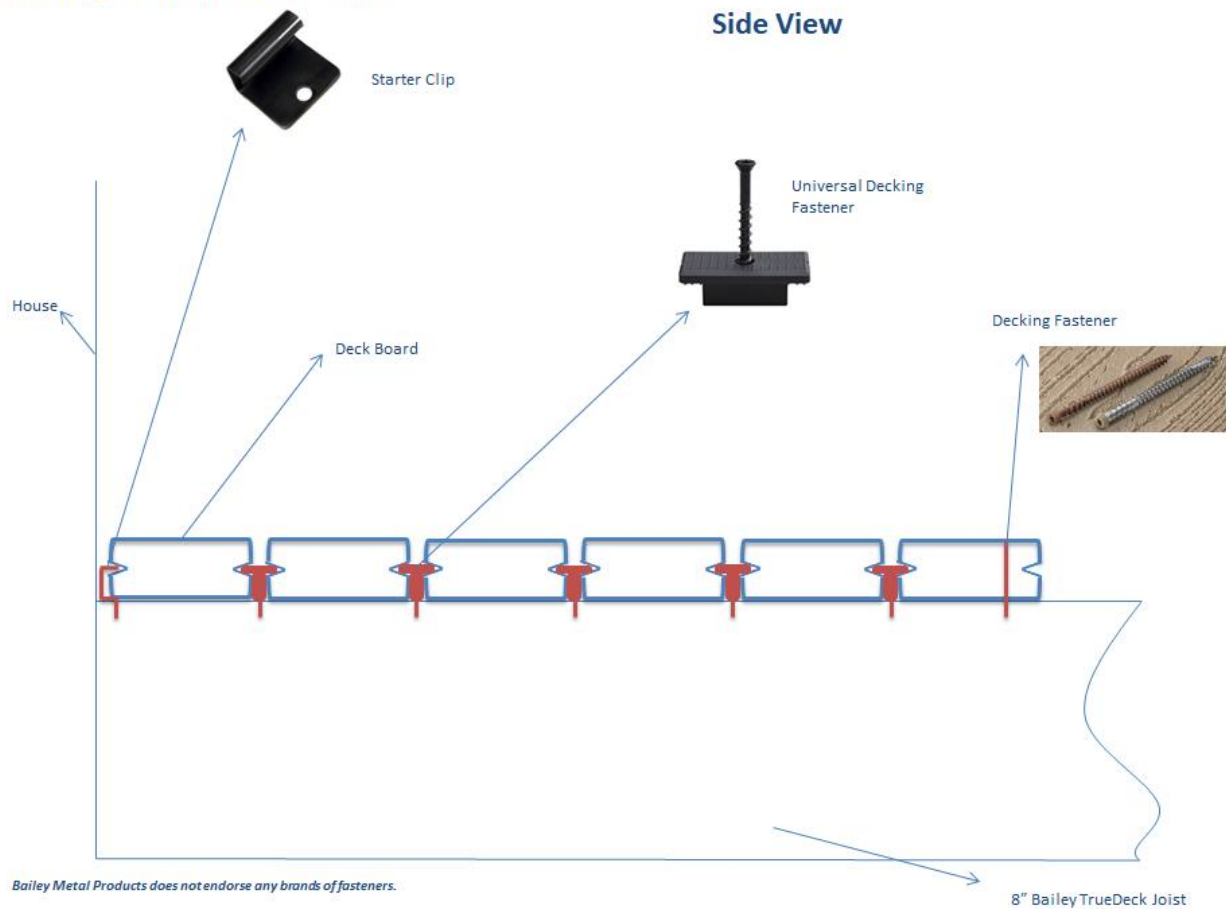

Figure 24
7. **Installing Decking Boards:** Follow decking board manufacturer's installation instructions. As one of the methods of installing decking boards, we recommend using a starter clip for the first deck board (close to the ledger) followed by a series of decking fasteners attached between deck boards. Although we don't endorse any specific brand of deck screw, we have seen good results with Cortex hidden fastening system for steel deck framing. Please refer to fastener manufacturer's instruction for connection details. Figure 24 provides an overview of laying out the decking material on BAILEY TRUEDECK™.